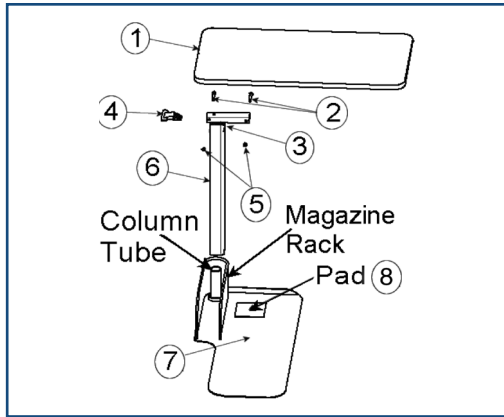

FIGURE 1
2. Stand the Column (#6) on end, making sure the Trip Rod is visible in the rectangular tube but not protruding out of the top, as shown in Fig. 1. If necessary, shake the Column (#6) until the rod drops.
3. Insert Trip Handle (#4) into the Column (#6) with the rounded side up. Be sure that the Trip Handle (#4) rests on top of the rod inside the Column (#6). Fig. 1